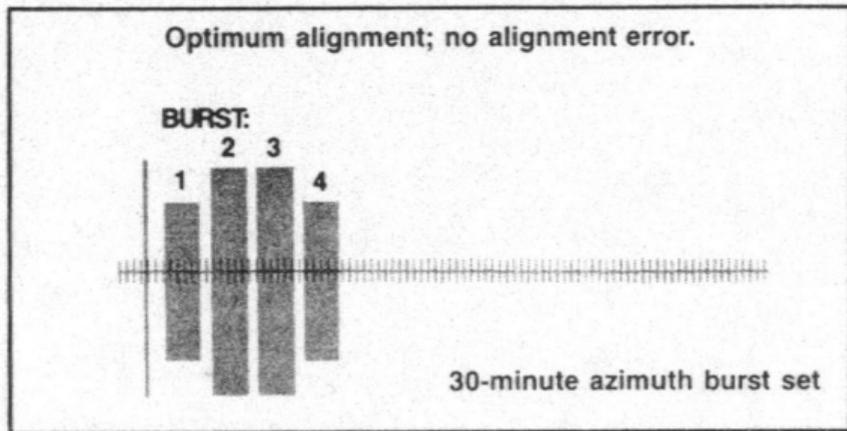

Figure 3. Azimuth Pattern Display
4. You should see a burst pattern on the oscilloscope, as in Figure 3. The azimuth specification is normally ± 30 minutes of azimuth angle.